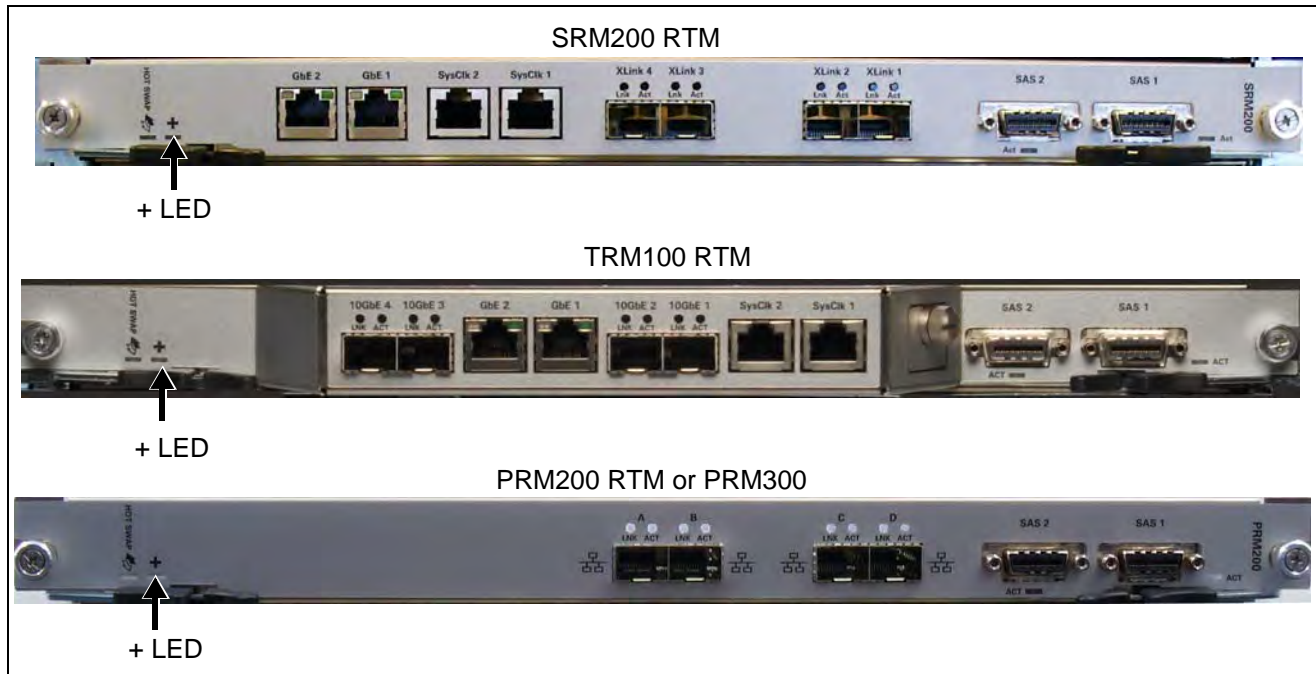

Figure 4.7 - RTM + LEDs
8. Verify that the + LED is GREEN on the SRM200 RTM or TRM100 RTM, and on the PRM200 RTM/PRM300 RTM, indicating no errors (Figure 4.7).